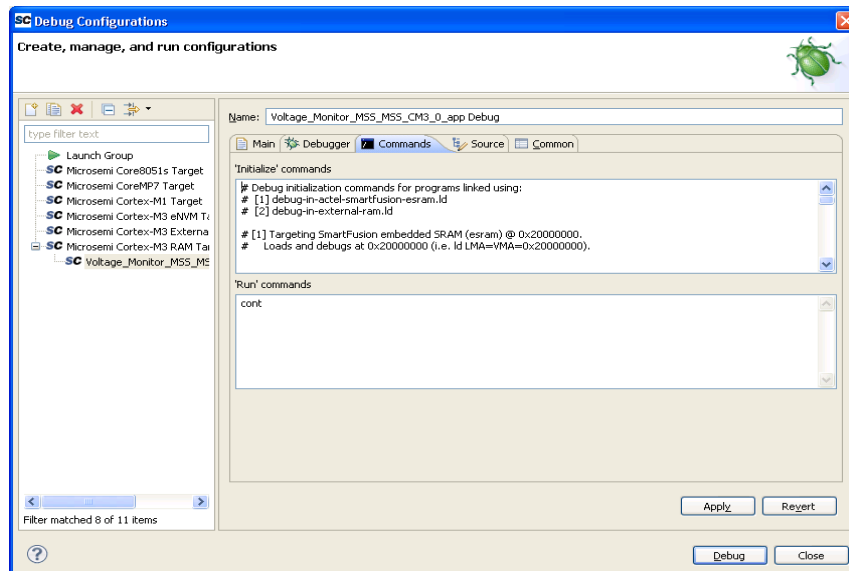

Figure 30 · Debugger Commands
4. Select the **Commands** tab. Confirm that commands appear in the Initialize and Run command sections, as shown in Figure 30 . .